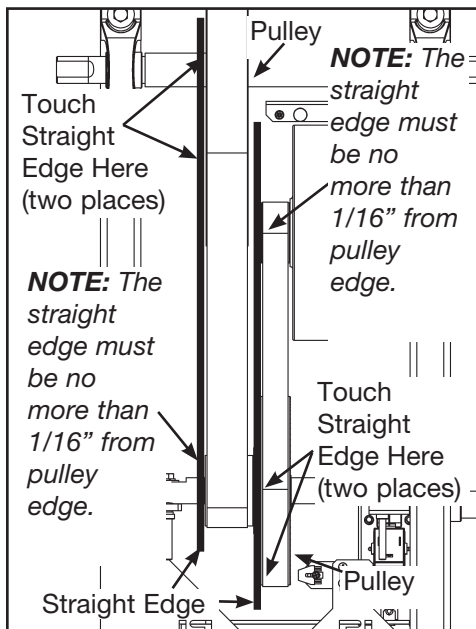

Figure 4
- F. Using a straight edge, verify that both pulleys are aligned properly. See Figure 4. **NOTE:** The straight edge must be no more than 1/16" from pulley edge.